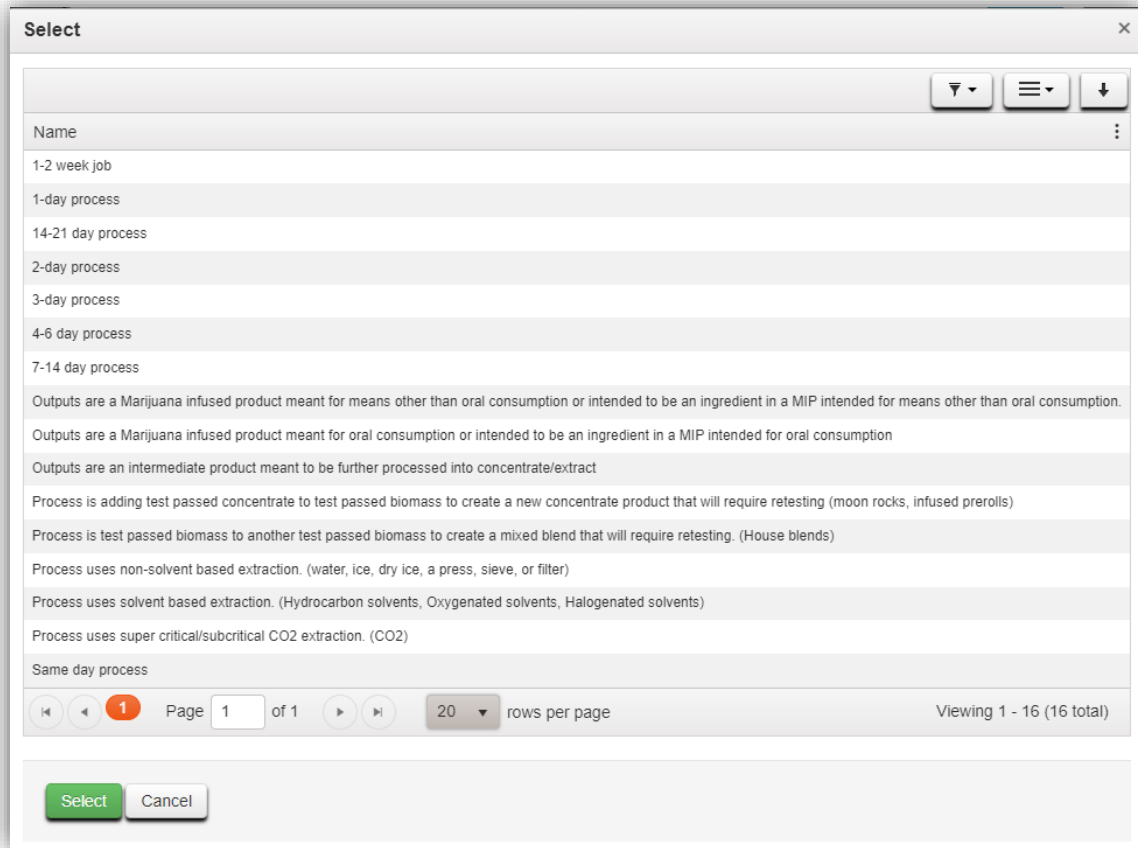

Figure 7: Selecting processing jobs Attributes
- Select the attributes from the CCD-configured options using the Search button (magnifying glass icon) – see **Figure 7** below.